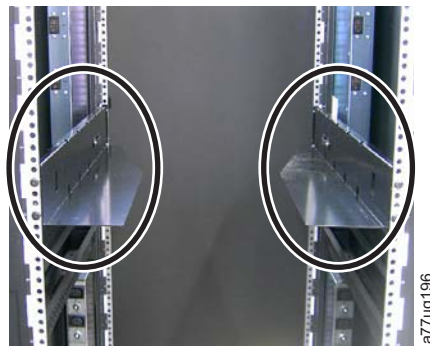

Figure 10-28. Front view of a rack showing the rails installed
2. With assistance, slide the replacement library enclosure onto the metal rails that are already in position in the rack (see Figure 10-28).